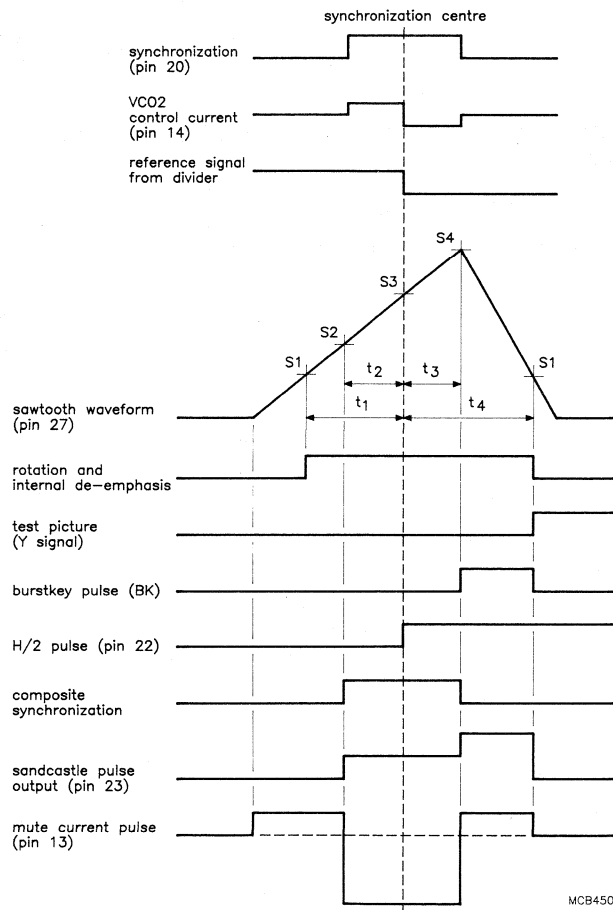

Fig.3 Timing diagram.
14. Values refer to Fig.3 (R1 is the resistor from pin 26 to ground, C1 is the capacitor from pin 27 to ground):